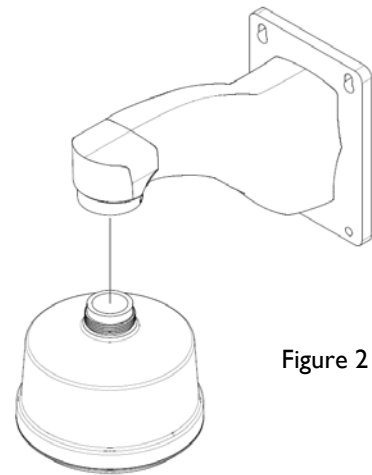

Figure 2
4. Screw the housing into the mount point (Wren HM3400 wall mount shown in Figure 2 for illustration purposes).